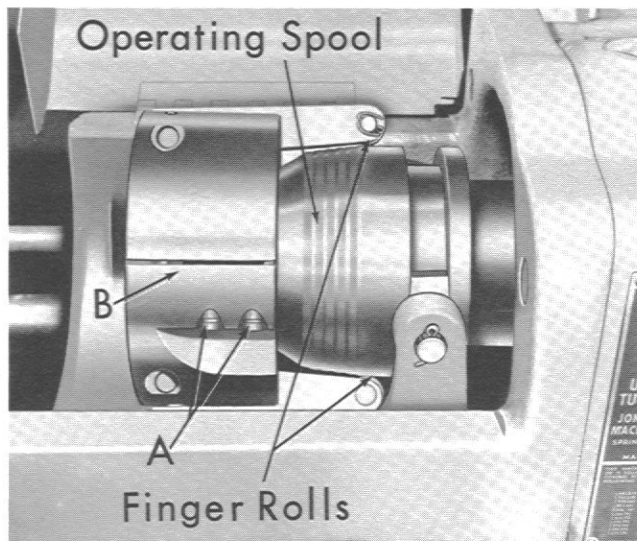

Figure 10 - Collet Chuck Operating Spool and Fingers
C. The collet chuck is properly adjusted when it provides the gripping pressure necessary to prevent work slippage under the existing cutting conditions. When the work is properly chucked, the finger rolls should bear on the top of the spool as shown in figure 10.
1. Open the collet chuck to remove the finger pressure from the spool. Loosen binder screws A in finger carrier B shown in figure 10.
D. The collet chuck is properly adjusted when it provides the gripping pressure necessary to prevent work slippage under the existing cutting conditions. When the work is properly chucked, the finger rolls should bear on the top of the spool as shown in figure 10.
1. Open the collet chuck to remove the finger pressure from the spool. Loosen binder bolts A in finger carrier B shown in figure 10.